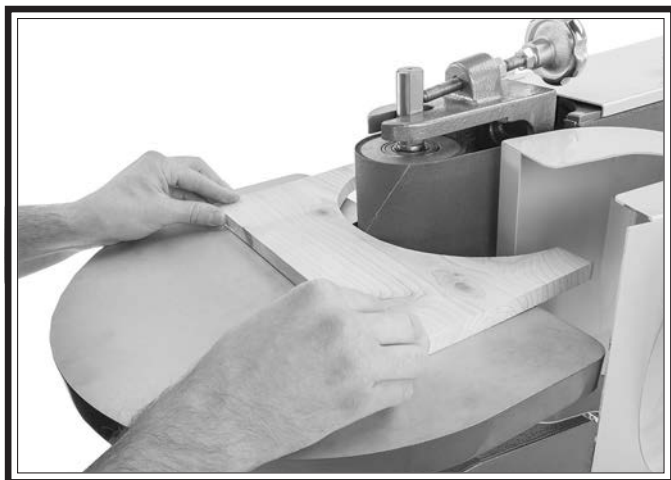

Figure 49. Typical contour sanding operation.
4. While securely holding workpiece, slowly feed workpiece into moving belt with light, even pressure. Maintain control of workpiece, as shown in **Figure 49**. **DO NOT** force workpiece against belt.